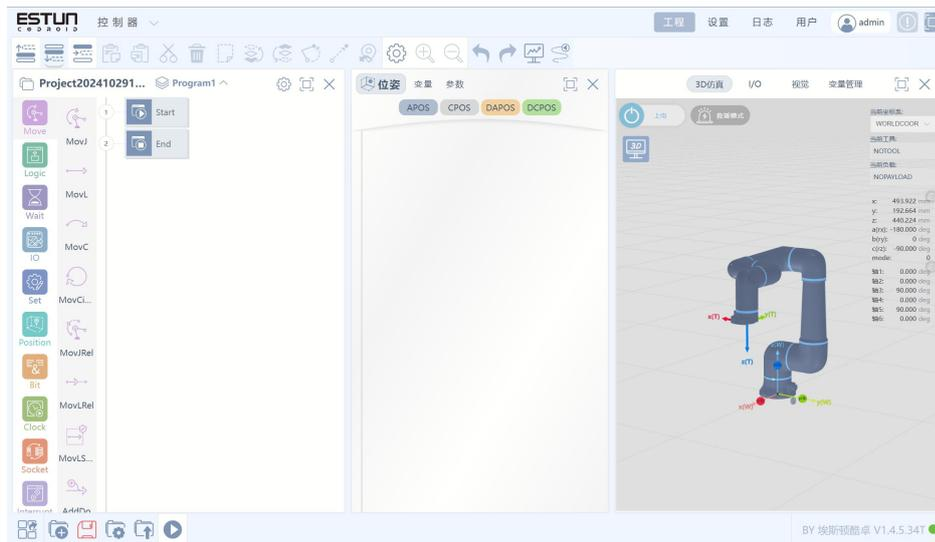

Figure 3-12 Robot control interface
6. After login, you can go to the robot control page, and then you can power on the robot. Before powering on the robot, ensure that the emergency stop button on the hand operator is reset and no human or device is in the motion range. Click the button in the "3D Simulation" view, as shown in the robot control interface in Figure 3-12. When you hear the sound of the lock release at the joint, it indicates that the joint is powered on.